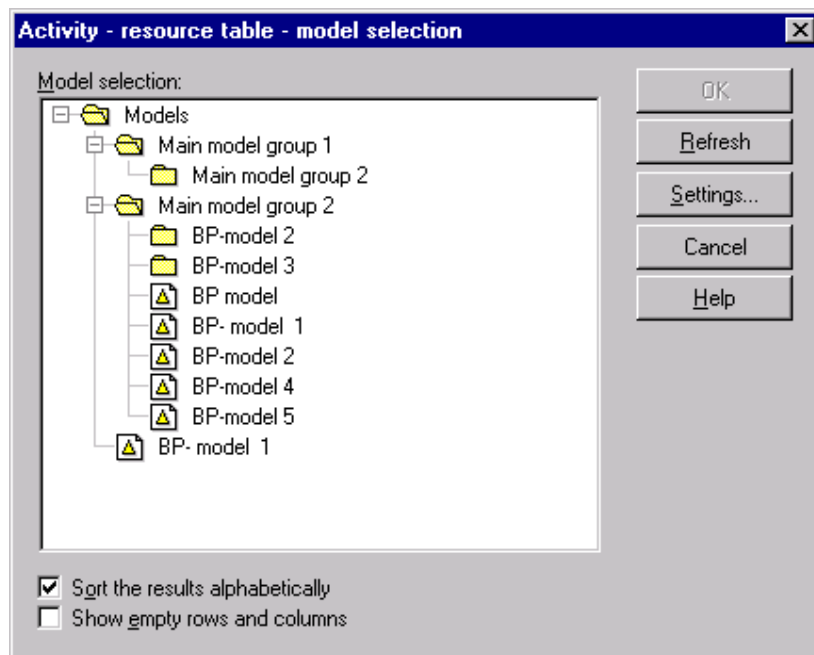

Figure 293: Relation table - Model selection
**Hint:** In the picture above the relation table shows the standard representation in "compact form", i.e. empty rows and columns will be shrunk (see fig. 296). You can have a complete representation of the relation table including empty rows and columns - as it is shown in the picture below - (see fig. 297) by activating the "Show empty rows and columns" option in the <Relation table> - Model selection" window (see fig. 293).